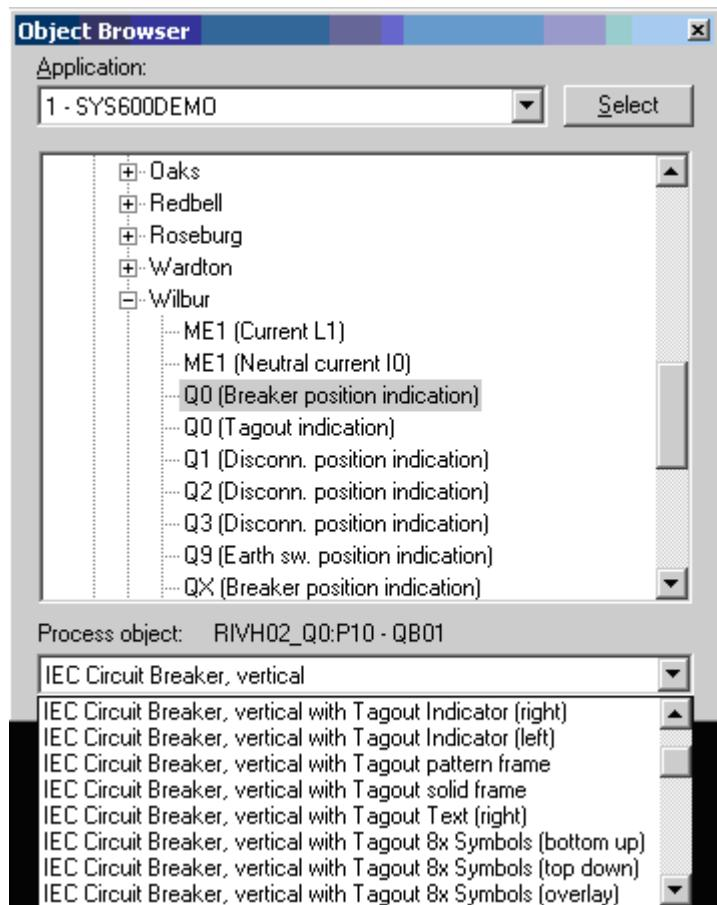

Figure 54: Tagout symbol group installation
1. As a group of symbols, switch device symbol together with the tagout symbol, with automatic creation and mapping of all used data variable. See Figure 54 below.